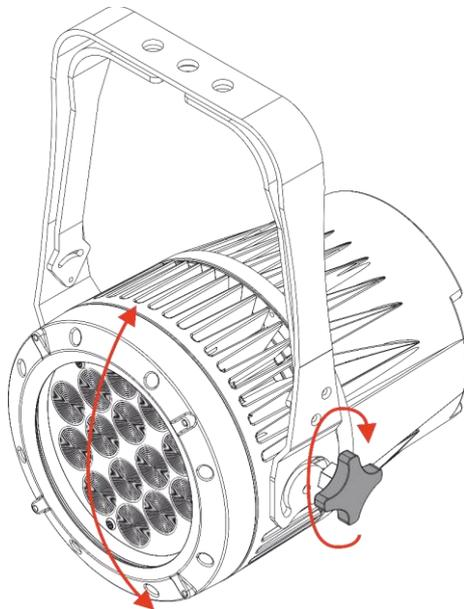

Fig. 09
- 01) Turn the **adjustment screw (03)** counterclockwise to release it.
- 02) Tilt the device at the desired angle (see Fig. 09).
- 03) Turn the **adjustment screw (03)** clockwise to tighten it. Make sure that the device cannot move freely after the **adjustment screw (03)** is tightened.